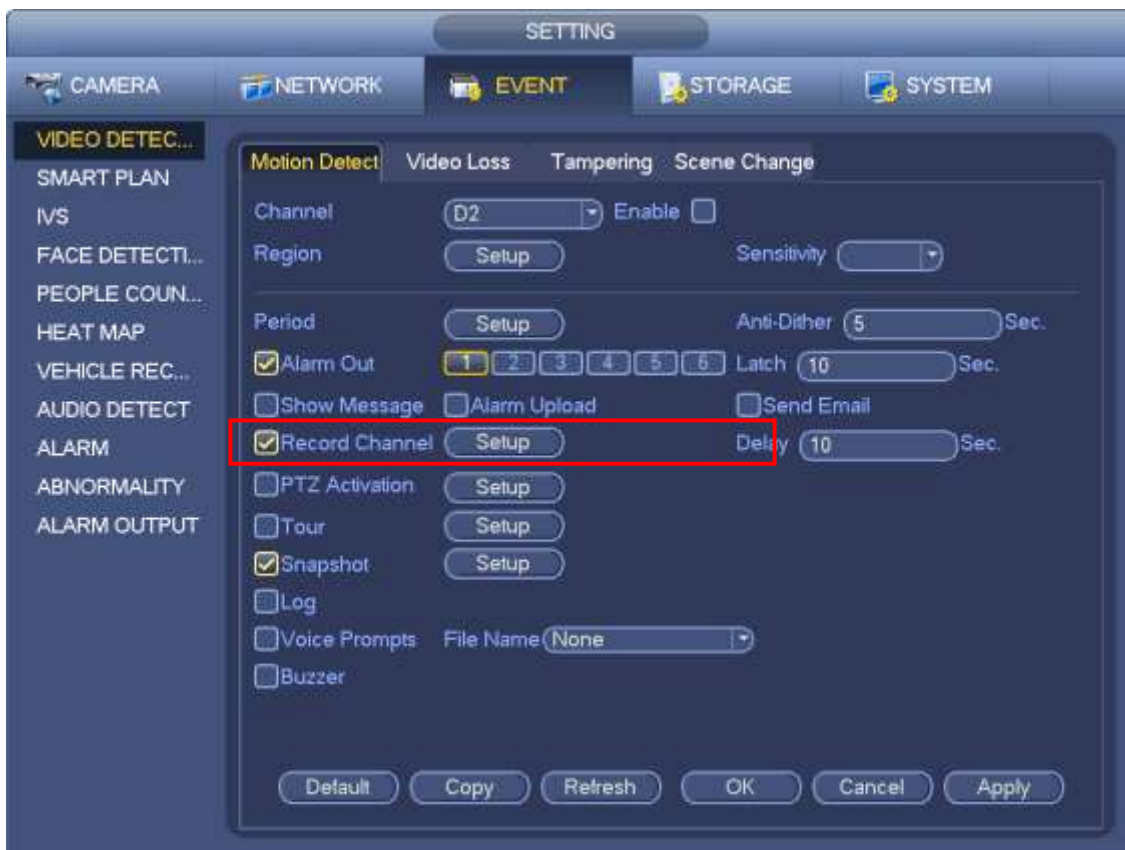

Figure 4-35
- When the record type is MD (motion detect), alarm, MD&Alarm, IVS, please enable the channel record function when corresponding alarm occurs. For example, when the alarm type is MD, from main menu->Setting->Event->Video Detect->Motion Detect, please select the record channel and enable record function. See Figure 4-35.